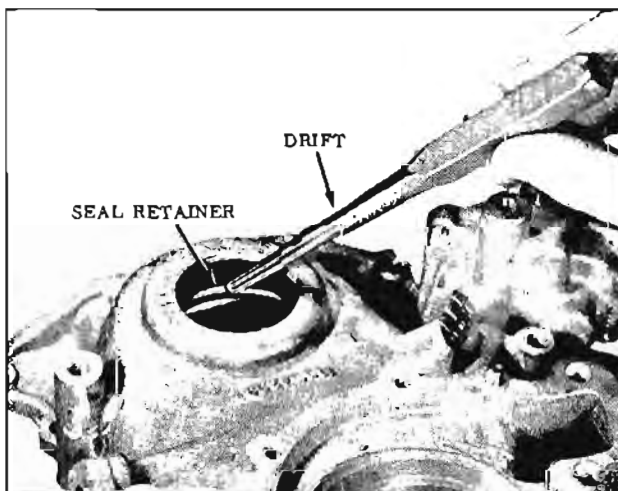

Fig. 8-141 Removing Front Oil Seal
3. Remove seal retainer with drift. (Fig. 8-141)